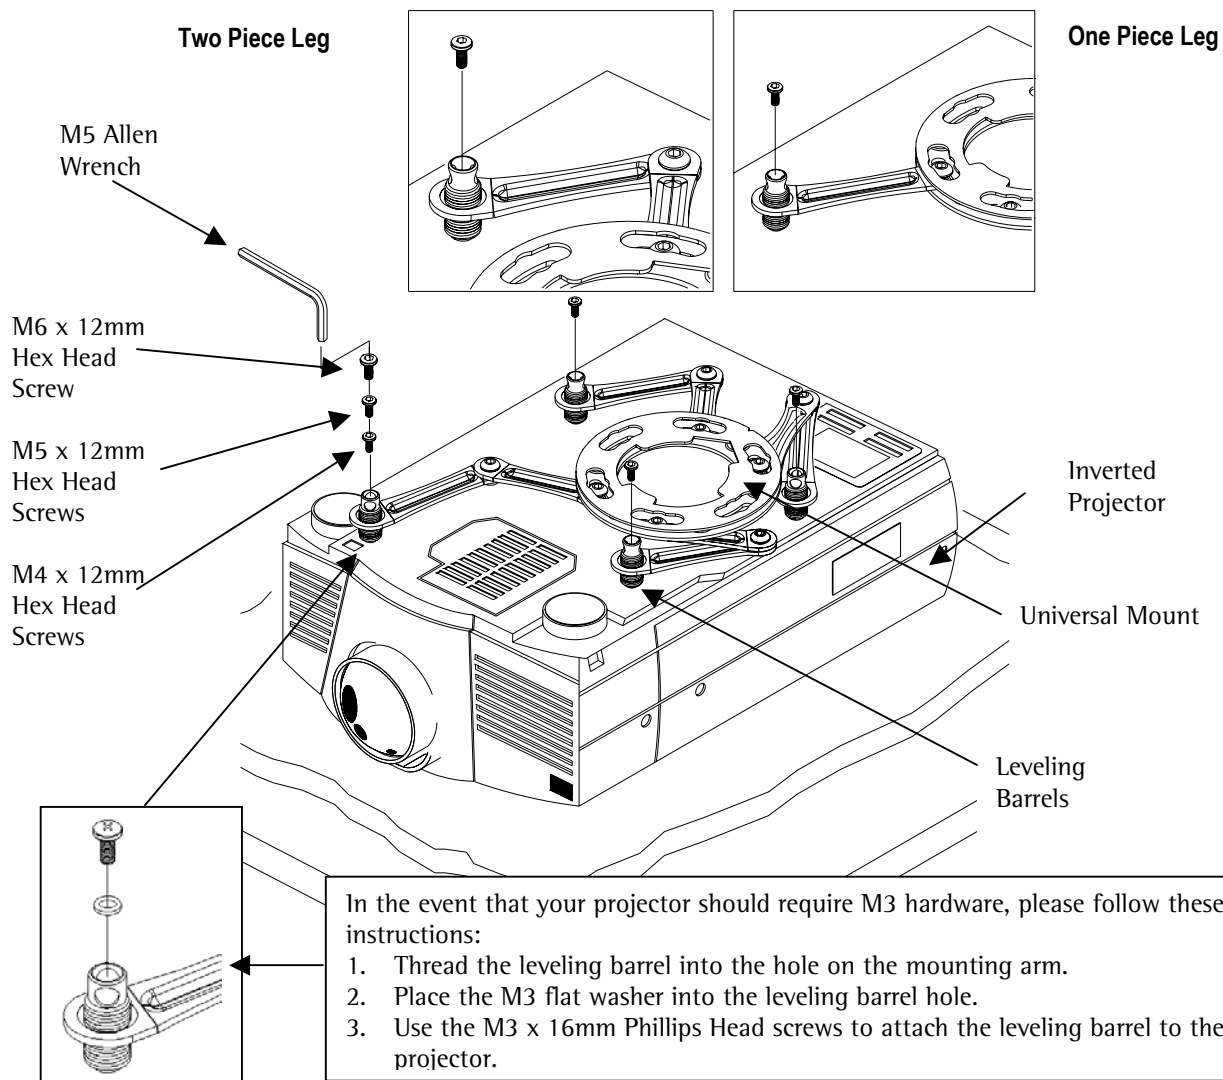

Figure 3. Bracket Installation
**NOTE:** For easier installation, the mounting legs should be first mounted to the projector. Each leg should then be adjusted so that they can mount to the Universal Mount (Figure 3).